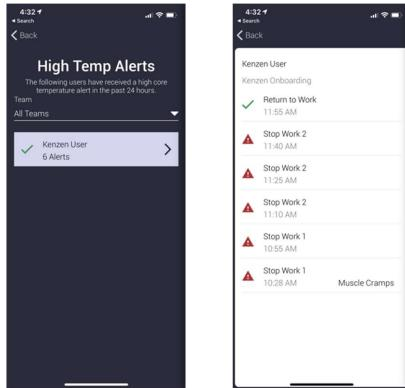

Figure 25: Team Alert Summary Details
2. Select a **Team** from the drop-down menu to view Team Alerts or select **All Teams** to view all alerts (Figure 25).